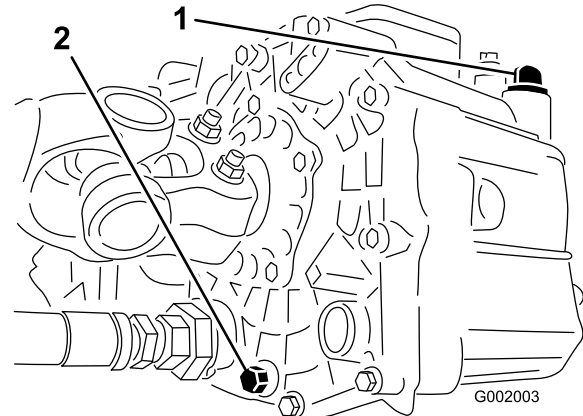

Figure 66
3. Remove the drain plug from the side of the reservoir and let the hydraulic fluid flow into the drain pan (Figure 66).